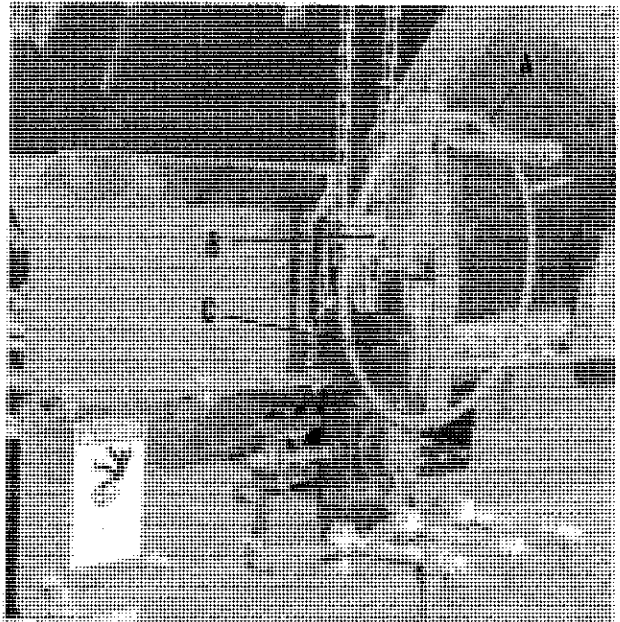

FIGURE 40 - HAND WHEEL ADJUSTING
The hand wheel (A) moves the truck elevator out for field operation or in for transport. When not adjusting, the locking pin (B) should be installed to prevent the conveyor from moving unintentionally (see figure 40).